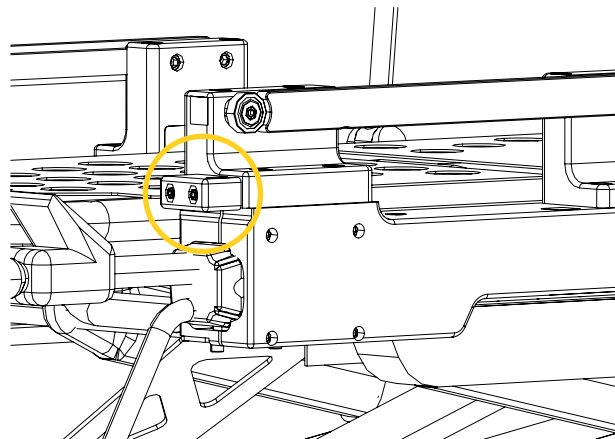

Figure 19: Adjusting the rail system
4. If required, loosen the two (2) socket head screw 10 - 32 x 1 in. of the small block located at the front of the rail to adjust the rail system using an Allen key $\frac{5}{32}$ in. (Figure 19).